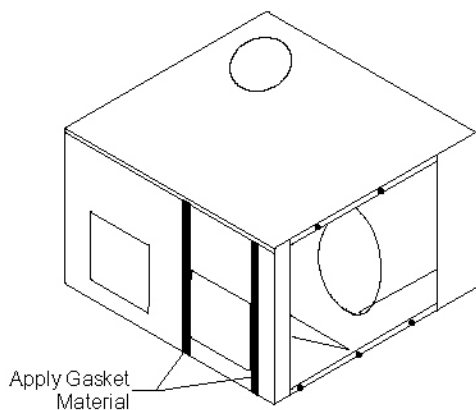

Figure 9: Installing Gasket
8. Install the gasket material to the duct panel on each side of the return air opening as shown in Figure 9.